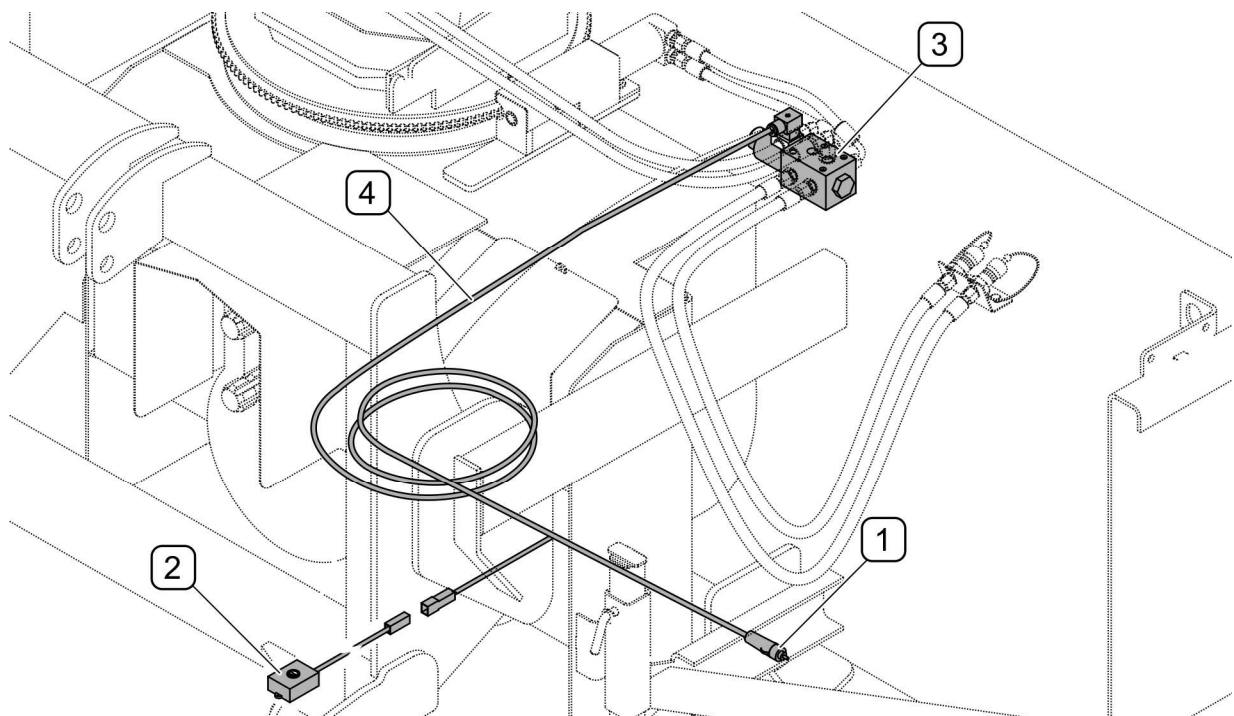

FIG. 3.6 Electrical system design
(1) - lighter socket plug; (2) - switch; (3) - solenoid valve; (4) - wiring harness
Snow blower electrical system (FIG. 3.6) consists of a lead (4) terminated with a plug (1) and a switch (2), which is used for switching on the discharge chute control hydraulic solenoid valve. After connecting plug (1) to cigarette lighter socket, switch (2) enables switching from hydraulic rotation control to raising and lowering of the discharge chute.